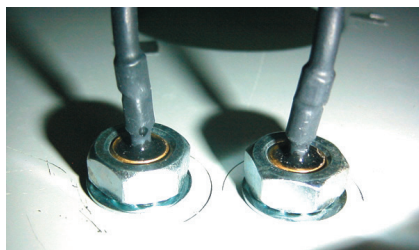

Figure 12 - Grounding of the Tubular Heating Element
5. To complete grounding of heater, all ground wires must be fixed with screws as originally assembled by the manufacturer. Additionally, internal tooth washers must be against the steel pan and under nuts as shown in Figure 12, for the tubular heating element.